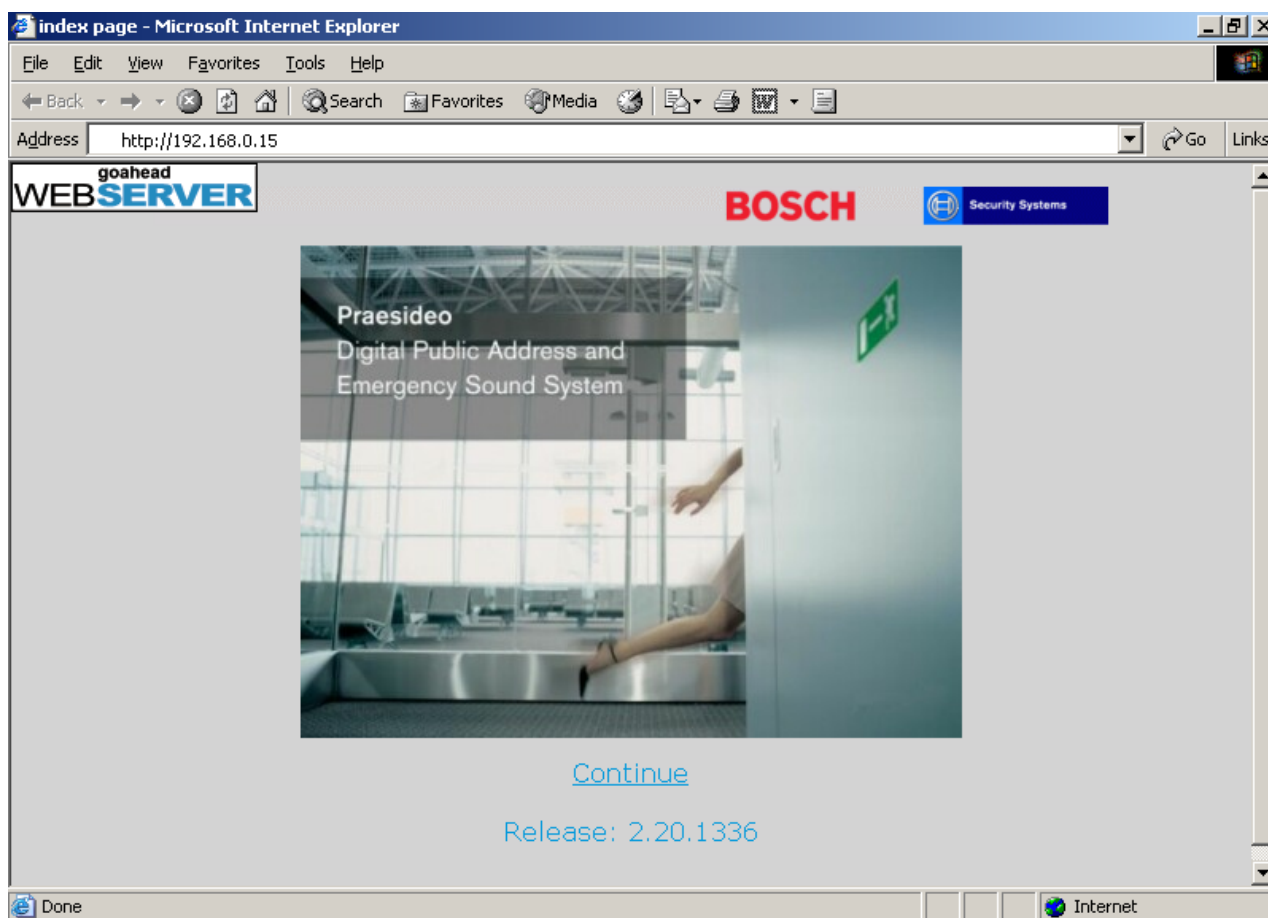

figure 31.1: Home page of the Praesideo web interface
- 3 Click the *Go* button at the end of the address bar. A screen similar to the one in figure 31.1 appears.
- 2 Click the *Offline Config* button. A window appears in which the configuration file that will be used for the offline configuration, can be chosen. It is also possible to create a new, empty configuration file. After clicking the *OK* button, a screen similar to the one in figure 31.1 appears. Logging on to the off-line version of the web interface is similar to logging on to the 'real' web interface.